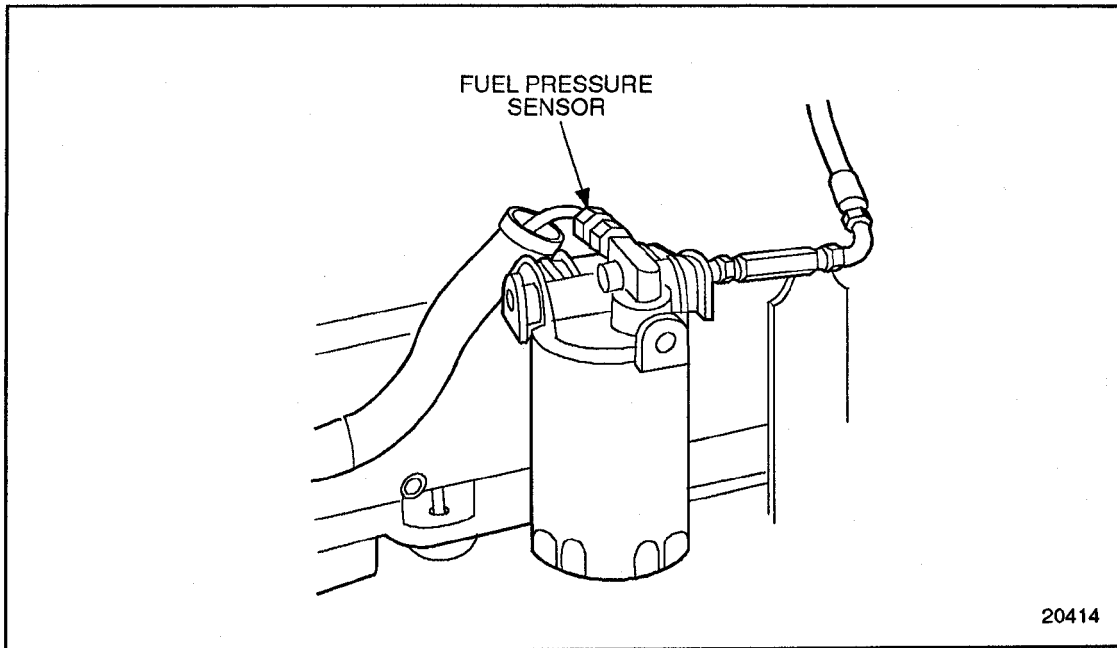
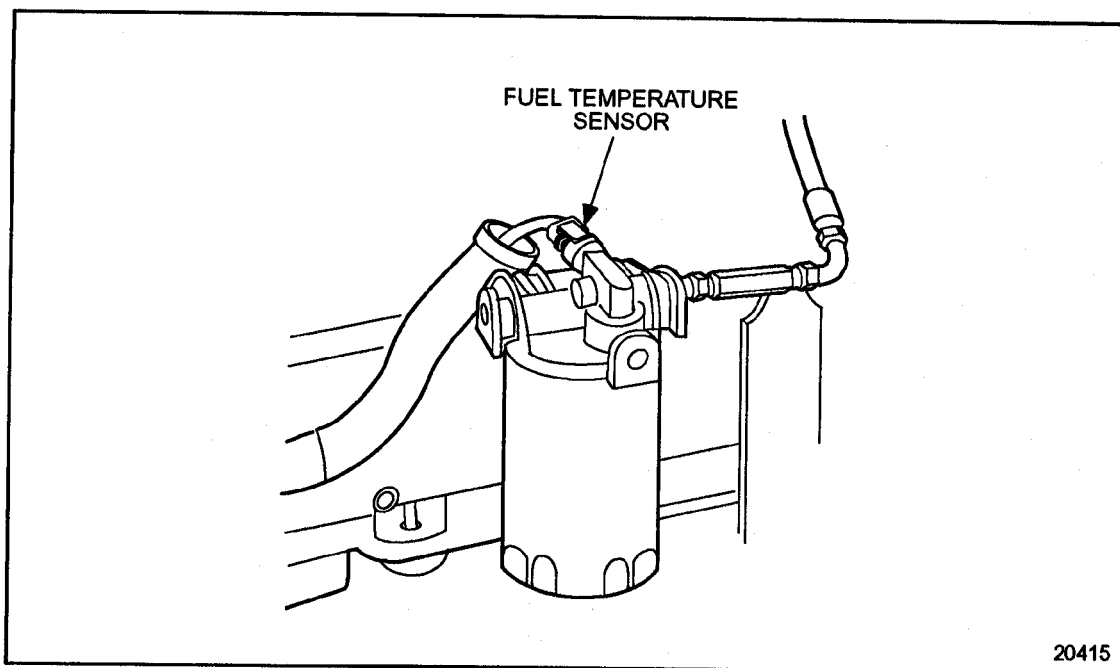

Figure 25-1 Engine Fuel Pressure Sensor
Figure 25-2 Engine Fuel Temperature Sensor
1. Remove either the fuel pressure sensor (FPS) or fuel temperature sensor (FTS) fitting from the secondary filter, if equipped; see Figure 25-1 for FPS and see Figure 25-2 for FTS.